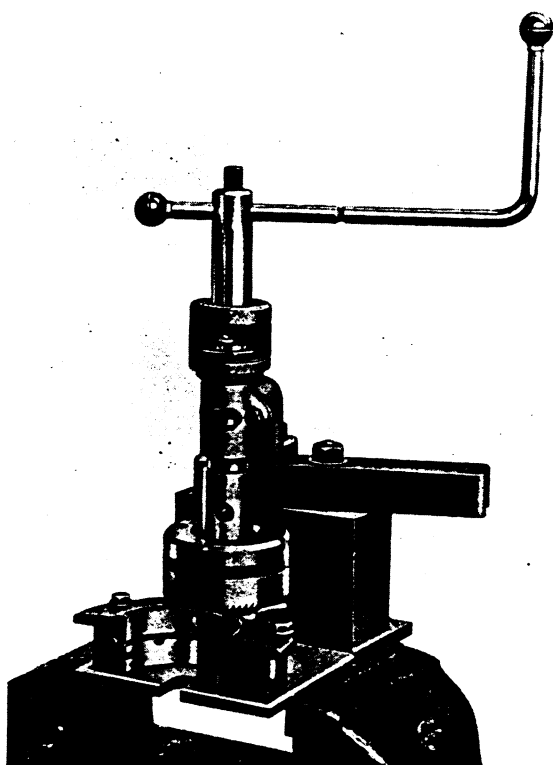

FIG. 153.
1. If necessary, skim the face of the recess clean, at the same time refacing the oil pump mounting face on the front bearing housing to compensate for the increase in depth, using Service Tool FT.142 in conjunction with the Hand Machining Equipment FT.6056. Fig. 153.